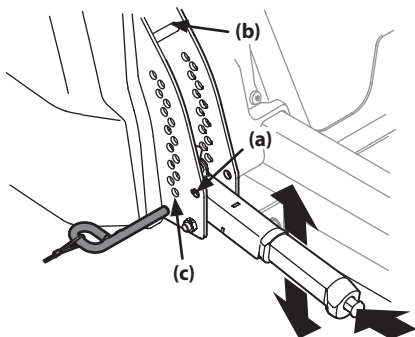

Figure 4-16
- a. Using the deck lift handle, raise the deck to the DECK REMOVAL/INSTALLATION POSITION (a). See Figure 4-16.
- d. Lower the deck into the DECK REMOVAL/INSTALLATION POSITION (a) using the deck lift handle. See Figure 4-16.
- e. Lower the deck into the DECK REMOVAL/INSTALLATION POSITION (a) using the deck lift handle. See Figure 4-16.
1. Place the deck lift handle in the highest mowing position (b). See Figure 4-16.